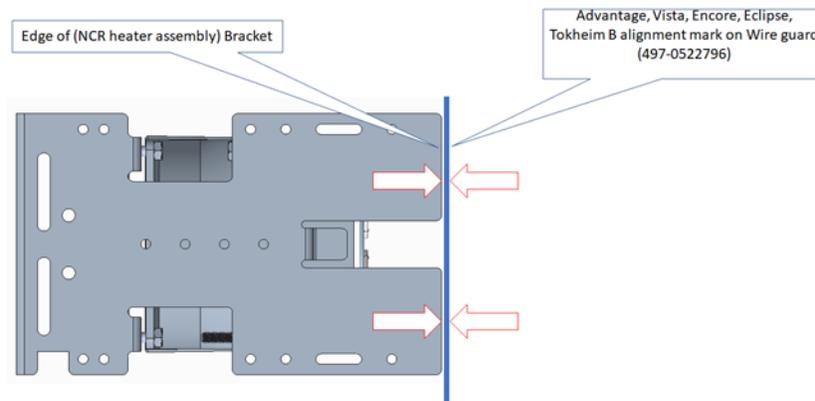
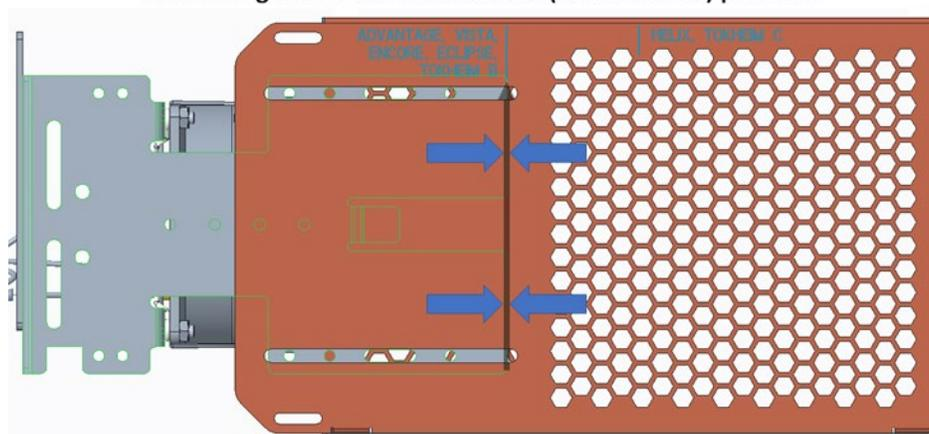

Figure 95
Figure 96
5. Slide the wire guard (497-0522796) around the NCR heater assembly so that the edge of the bracket aligns with the Advantage, Vista, Encore, Eclipse, Tokheim B alignment mark as shown in Figure 95 and Figure 96.